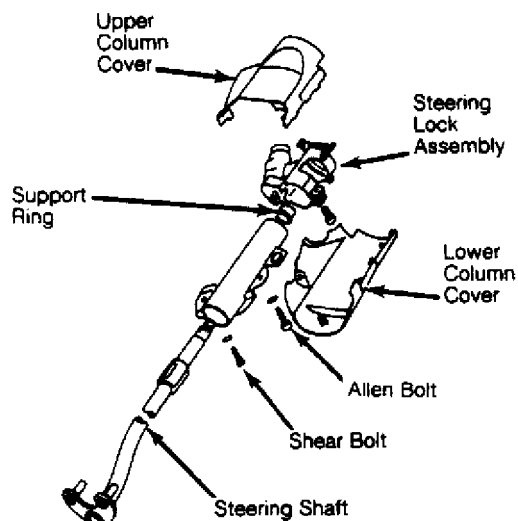

Fig. 1: Exploded View of Upper Steering Column
1) Disconnect battery ground cable. Remove steering wheel and combination switch. From inside engine compartment, remove clamp bolt retaining steering shaft clamp to steering gear pinion shaft. Remove column cover bolts and steering column covers. See Fig. 1.
2) Pry lock washer from steering shaft. Remove spring. Remove contact ring and steering lock assembly. Remove support ring from column tube. See Fig. 1.